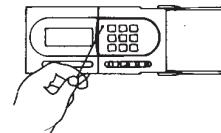

Figure 5
- Switch on the main power. Press the reset button to reset and start the clock. Use a thin probe, such as a straightened paper clip, to gently push the reset button through the hole in the front panel. (See Figure 5.)